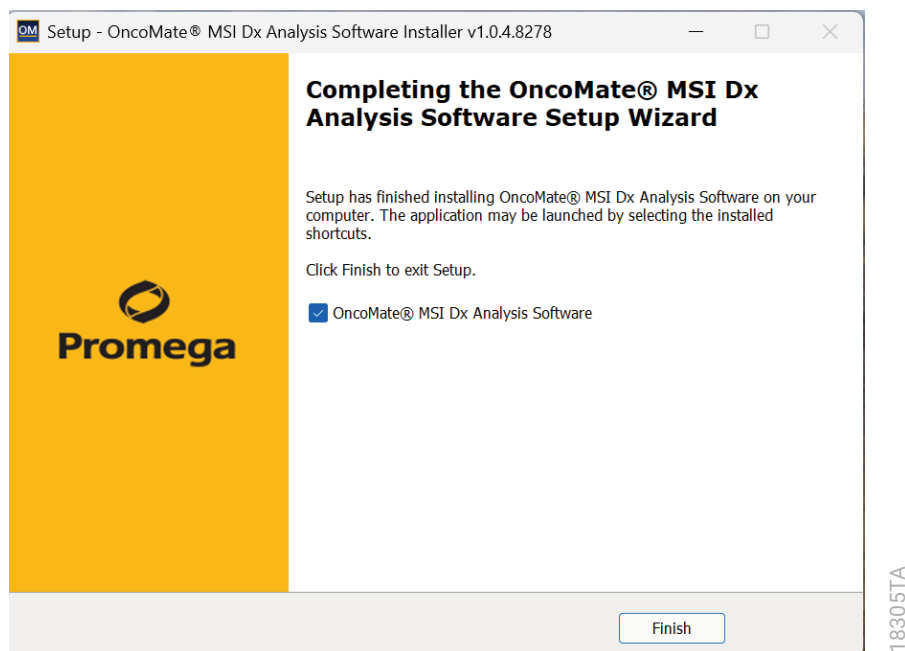

Figure 5. Notification that installation of the OncoMate® MSI Dx Analysis Software is complete.
9. A window will appear to notify you that the software is installed (Figure 5). Select **Finish** to proceed to the OncoMate® MSI Dx Analysis Software License window. A shortcut for the software is automatically created on your desktop.